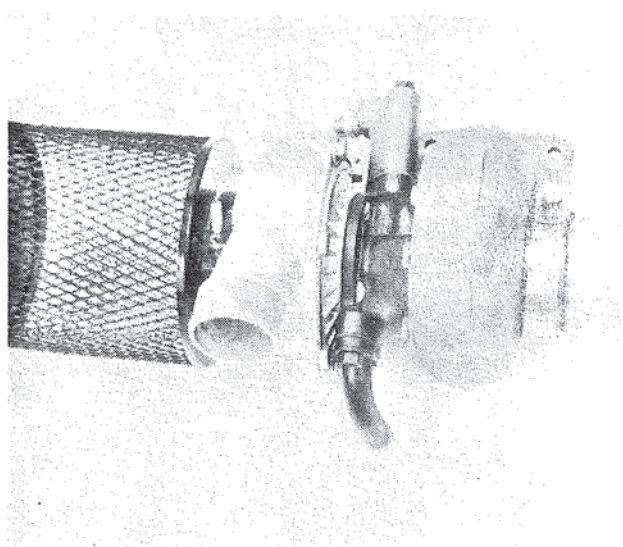

Figure 36. Turbocharger.
1. Remove turbocharger from engine. Figure 36.